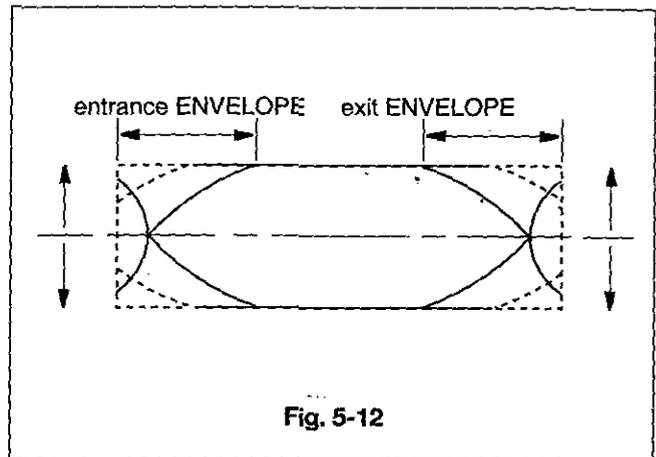

Fig. 5-12
- Switch the REVIEW MODE to the PLAY MODE. Make sure the state within 3 seconds as shown in Fig. 5-12. If it does not rise within 3 seconds after servo locking adjust as follows.
- Record video signal (color bar or monoscope on T-120 Tape) and make sure the playback envelope output meets the specification as shown in Fig. 5-12.